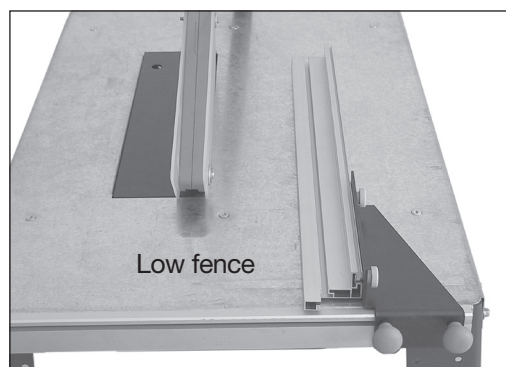

Fig 15.
- Low fence: For thin pieces. When the saw blade is bevelled. Fig 15.